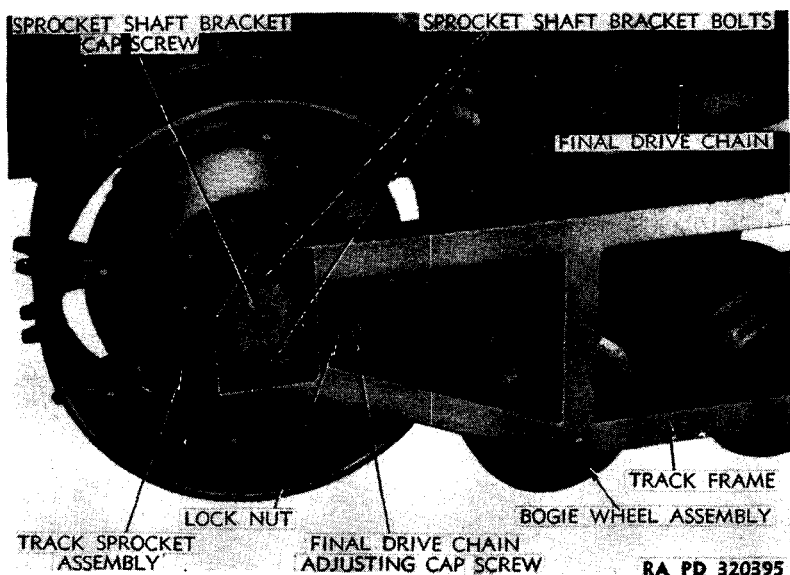

Figure 95—Removing Connector Link (Track Removed to Show Location Only)
c. **Replacement of Final Drive Chain.** Loosen final drive chain. Roll vehicle until connector link is just to rear of track sprocket and above track frame. Reach under top of track, and remove two cotter pins from connector link. Remove bar from connector link by tapping on pins. Remove connector link (fig. 95). Remove chain assembly. Install new chain in reverse order to above. Adjust chain tension (subpar. b above).